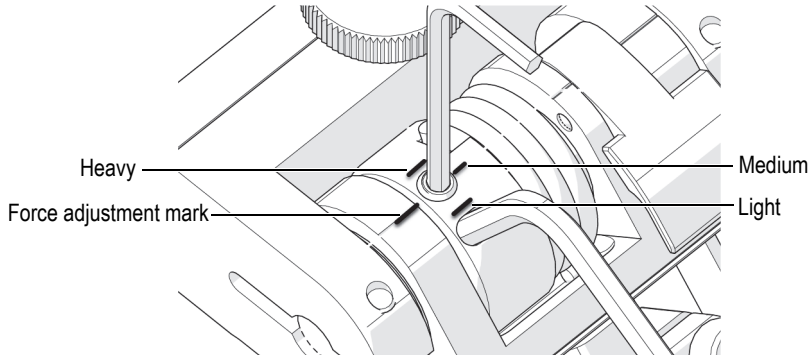

Figure 2-38 Marker lines adjust to the desired tension
6. Gently apply pressure on the long leg of the 3 mm hex wrench until the force adjustment marker lines up with the desired spring tension. While keeping the markers in line, tighten the force adjustment screw (see Figure 2-38 on page 63).